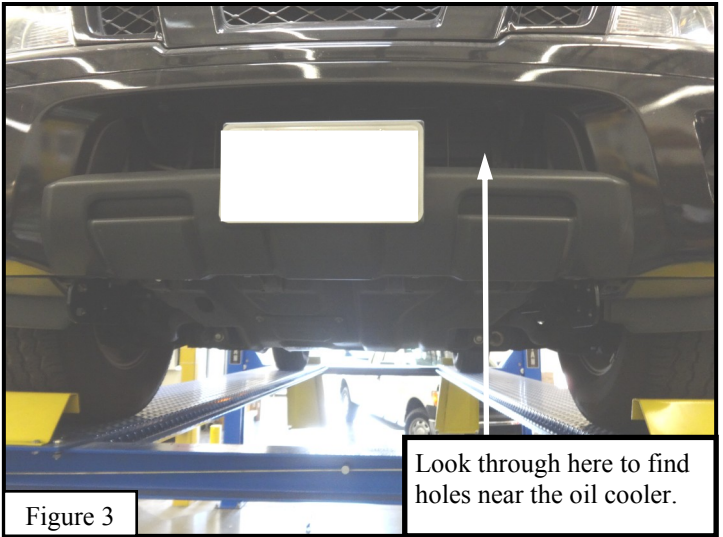

Figure 3
4. Proceed to locate through the front bumper, under the oil coolers, a set of holes. (Figures 3& 4)